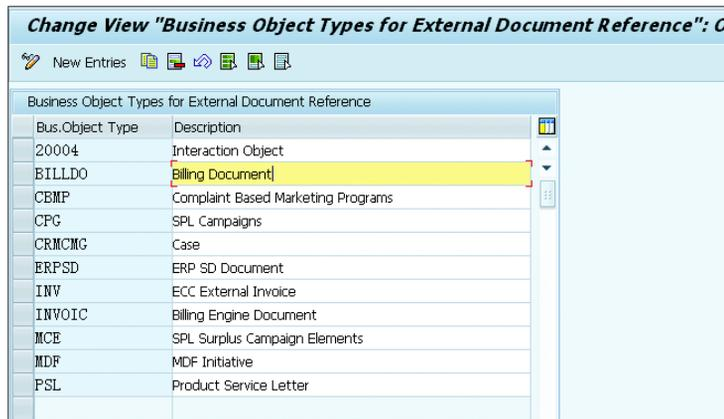

Figure 7.90 Define Object Types for Transaction Reference
- Define the business object type for the transaction that needs to be referenced. SAP has provided standard business object type BILLDO BILLING DOCUMENT as an example (see Figure 7.90). To do this, navigate to CUSTOMER RELATIONSHIP MANAGEMENT • TRANSACTIONS • SETTINGS FOR COMPLAINTS • INTEGRATION • TRANSACTION REFERENCING • DEFINE OBJECT TYPES FOR TRANSACTION REFERENCE.